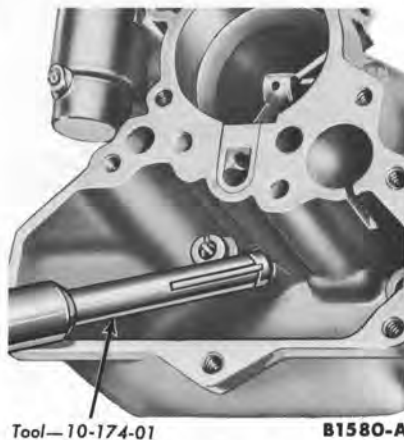

FIG. 24—Jet Removal or Installation
9. Using a main jet socket (tool-10-174-01), remove the main jet (Fig. 24).
4. Using a main jet socket (tool-10-174-01), install the main jet (Fig. 24).